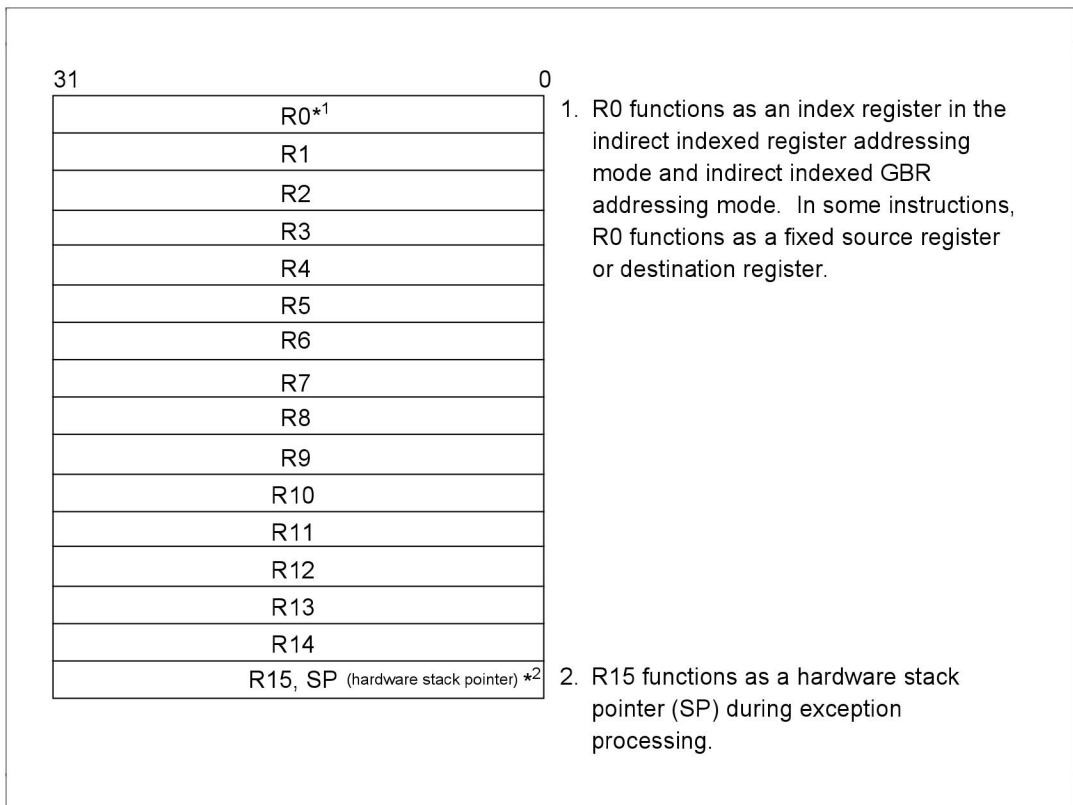

Figure 2.1 General Registers
There are 16 general registers (R_n) numbered R0–R15, which are 32 bits in length (figure 2.1). General registers are used for data processing and address calculation. R0 is also used as an index register. Several instructions use R0 as a fixed source or destination register. R15 is used as the hardware stack pointer (SP). Saving and recovering the status register (SR) and program counter (PC) in exception processing is accomplished by referencing the stack using R15.